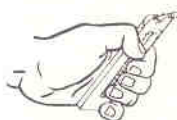

FIGURE 2
6. Load magazine by grasping as shown in Figure 2, and gradually depress the magazine button as each cartridge is inserted — RIM END FIRST — through the front.